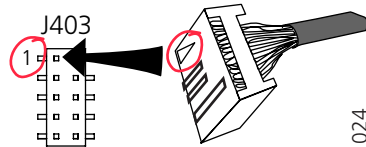

Figure 20. Attach the arrow marking to pin 1 on J403.
- 1 Attach a serial cable (Interface Cable U982 & PCR, Art.No. 660142) between connector J403 on the Master PCR-M, see figure 20 below, and a PC.